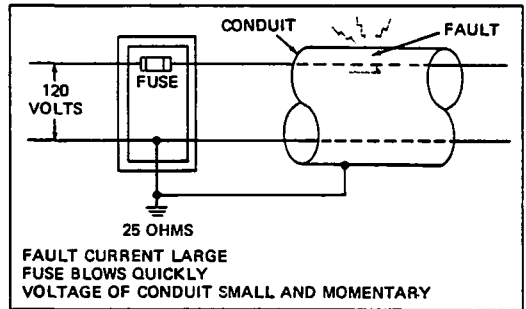

Fig. 7-6. Circuit and conduit connected to common ground.
7.27 Connecting the conduit and the neutral conductor to a *common ground*, as shown in Fig. 7-6, provides better shock protection than the other conditions just described. The conduit and the neutral wire are connected at the ground point. Thus, any fault between the hot conductor and the grounded conduit is the same as a short circuit between the hot and neutral conductors. A large fault current is created which quickly blows the fuse. A small amount of voltage appears momentarily on the conduit, but only for the short time it takes the fuse to blow.